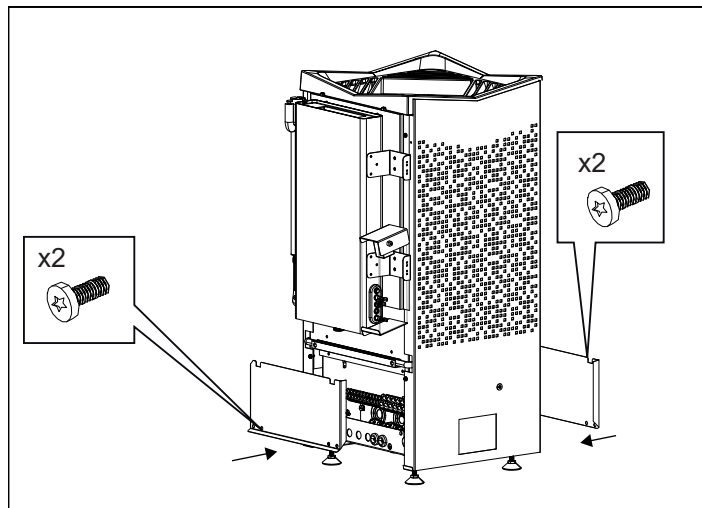

Figure 13: Put back the front and back hatch
9. Push back the drawer, mount the front and back hatch and tighten the screws, (see Figure 13)